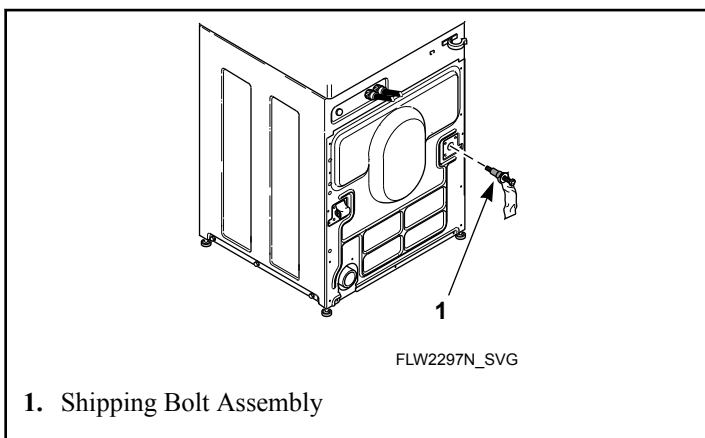

Figure 53
7. Insert shipping bolt assemblies into each shipping bolt hole. Refer to *Figure 53*.